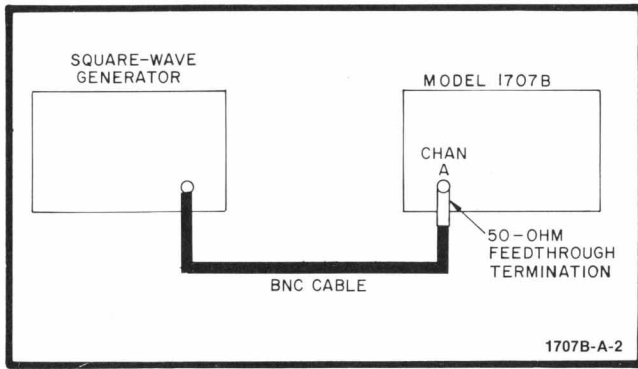

Figure 5-2. Rise Time Test Setup
- a. Connect instruments as shown in figure 5-2.